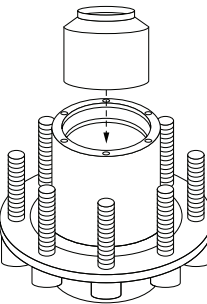

Figure 6
- 10.) Turn the hub over, with the seal end down. For drive and trailer hubs, install the cone spacer making sure the small end of the spacer is facing the outboard side of the hub (see Figure 6).